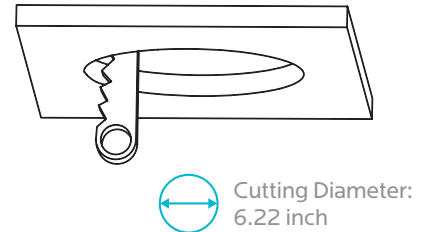

Fig. 2
5. Using quick-connect push-in terminals, connect the ground wire to the green wire terminal; black wire to black wire terminal; white wire to white wire terminal. (Fig. 2)